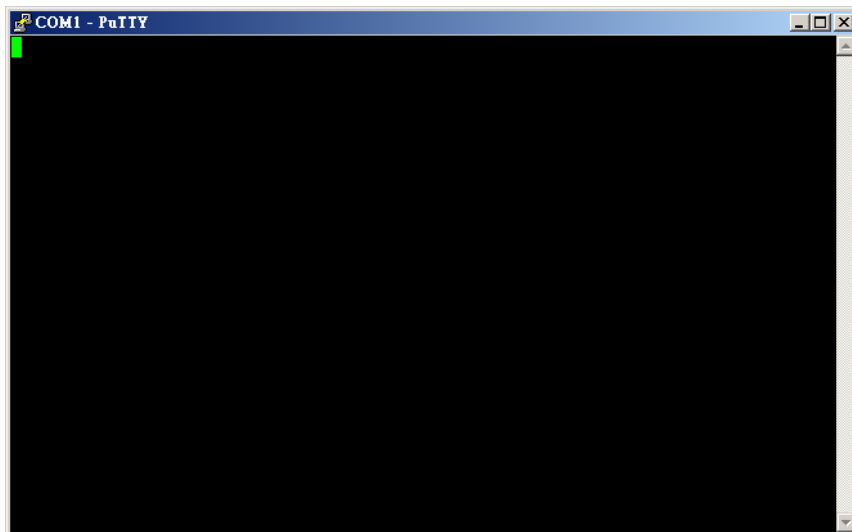

Figure 53: PuTTY terminal window
- Push open and a window will pop up (see Figure 53)